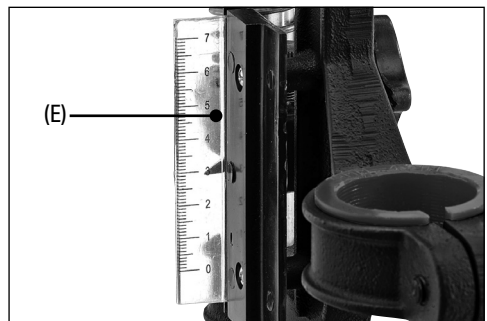

Fig. 6
6. Slide the depth scale ruler (E) into the slot. (Fig.6)